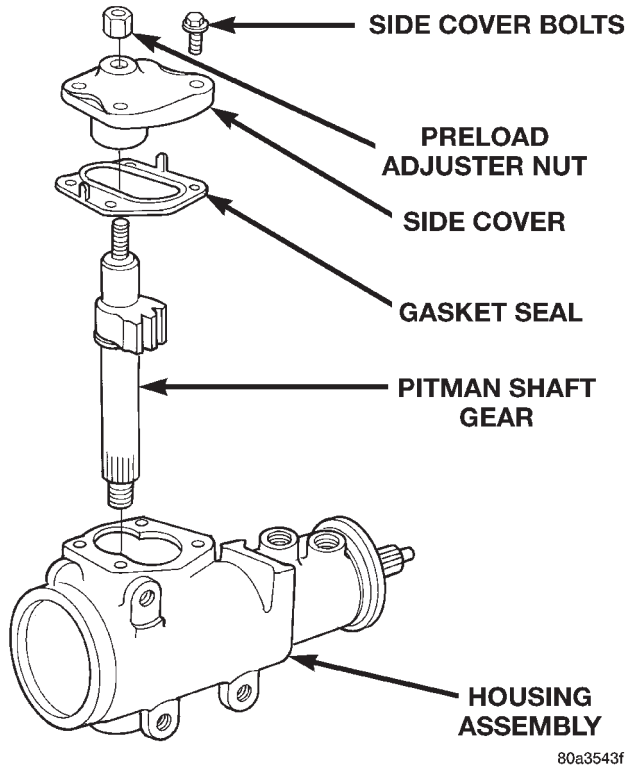

Fig. 6 Side Cover and Pitman Shaft
- (1) Clean exposed end of pitman shaft and housing with a wire brush.
- (2) Remove preload adjuster nut (Fig. 6).
- (3) Rotate the stub shaft with a 12 point socket from stop to stop and count the number of turns.
- (4) Center the stub shaft by rotating it from the stop 1/2 of the total amount of turns.
(5) Remove side cover bolts and remove side cover, gasket and pitman shaft as an assembly (Fig. 6).
- (1) Install pitman shaft bearing into housing with a bearing driver and handle.
(2) Coat the oil seals and washer with grease.
(3) Install the oil seal with a driver and handle.
(4) Install backup washer.
(5) Install the retainer ring with snap ring pliers.
(6) Install dust seal with a driver and handle.
(7) Install pitman shaft to side cover by screwing shaft in until it fully seats to side cover.
(8) Install preload adjuster nut. **Do not tighten nut until after Over-Center Rotation Torque adjustment has been made.**
(9) Install gasket to side cover and bend tabs around edges of side cover (Fig. 6).
(10) Install pitman shaft assembly and side cover to housing.
(11) Install side cover bolts and tighten to 60 N·m (44 ft. lbs.).
(12) Adjust Over-Center Rotation Torque.